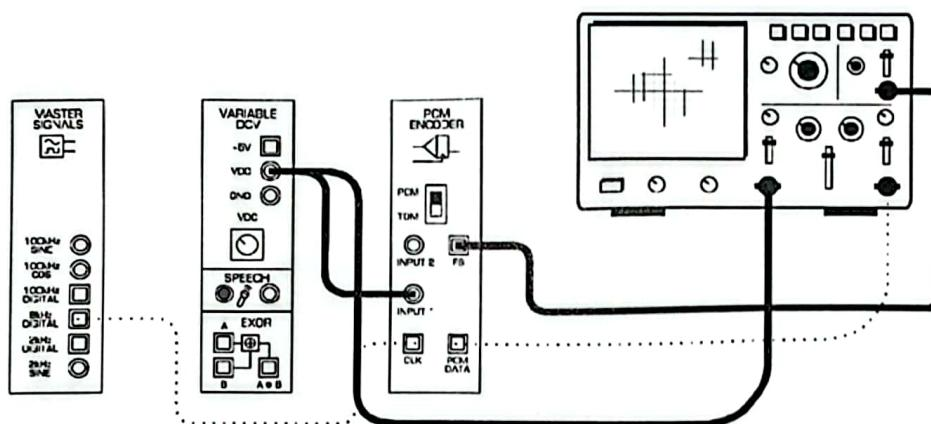

Figure 7
17. Modify the set-up as shown in Figure 7 below.